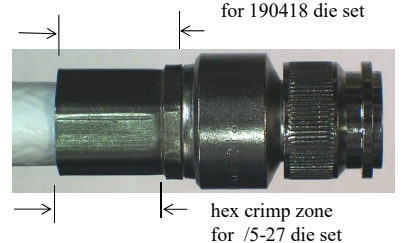

Figure 6
- 10) Shrink the ATUM dual-wall shrink tubing (Fig. 6) over the connector body and cable. Start shrink far enough behind the coupling nut to ensure no interference with coupling nut function.